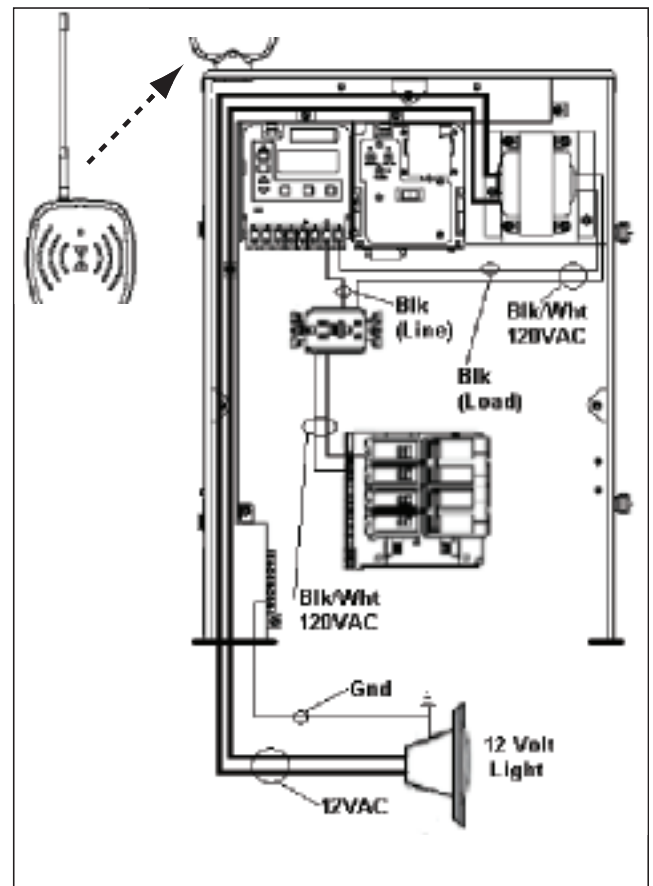

Figure 3-10
NOTE: If you require a low voltage transformer, you should order system model *PE45343RCT1* (with a 100 watt transformer) or *PE45343RCT3* (with a 300-watt transformer). Alternatively, you can order a 300-watt *PA124* or 100-watt *PA123* 12V transformer kit to mount in the standard system model *PE45343RC*. (See Figure 3-10.)
1. If required by local code, install a GFCI receptacle and connect the neutral and hot wire, from the circuit breaker, to the LINE side of the GFCI. (See Figure 3-10.)
- b. Then out the LINE side of the clock to the LOAD side of the GFCI. (See Figure 3-10.)